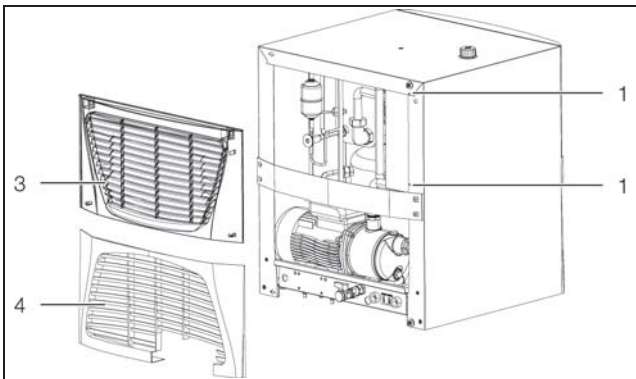

Fig. 42: Preparing the PLC connection (3320.600 and 3334.600)
- Remove the louvred grilles (fig. 42, items 3 and 4) on the rear of the chiller.